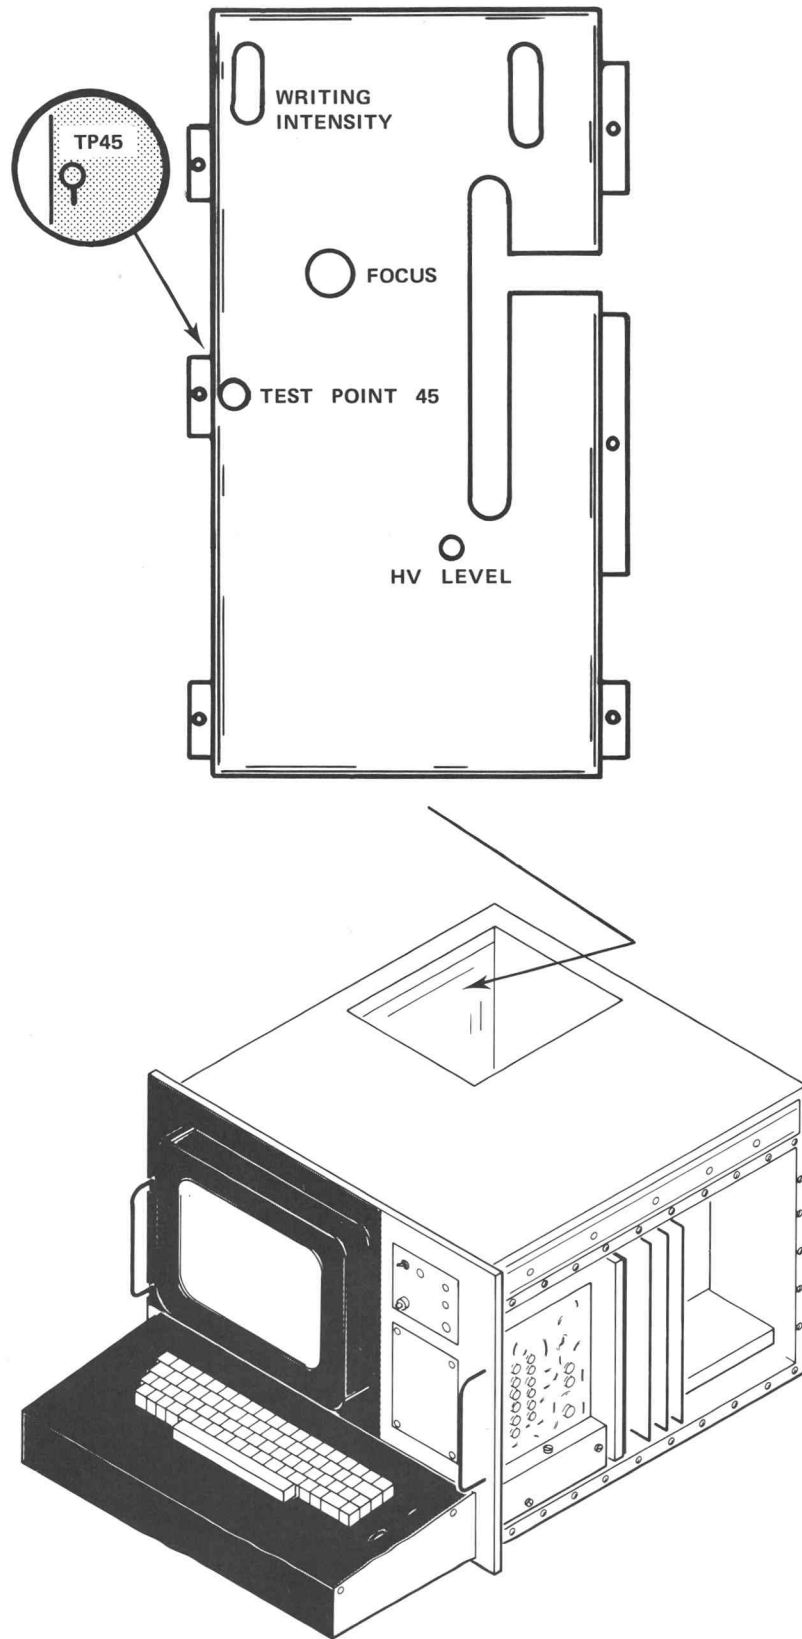

Fig. 4-6. High Voltage adjustments and test points.
a. With the Terminal off, set the voltmeter to read -5850 Vdc and connect it to TP45 on the High Voltage & Z Axis board in the back of the unit. See Fig. 4-6. The TP45 eyelet can be seen by looking into the cutouts on the front edge of the shield.
c. After about one minute, press PAGE. Then check for -5850 V at TP45. Adjust HV LEVEL (Fig. 4-6) as necessary to obtain that value. Use a non-metallic screwdriver to minimize the possibility of causing a short circuit.
f. On the High Voltage & Z Axis board in the back of the unit, rotate WRITING INTENSITY (Fig. 4-6) to increase intensity until the Alpha cursor can be seen near the center of the display. Do not make the cursor any brighter than is necessary. If the Alpha cursor doesn't appear, R91 on TC-1 may be set to the wrong limit, or the Terminal may be in Hold status. (Press SHIFT to clear Hold status.)
h. Press PAGE and check for the momentary appearance of a dot at the bottom-left of the cursor position. The dot may appear just before the cursor comes back into view. Adjust WRITING INTENSITY (Fig. 4-6) until a dim dot momentarily appears at the bottom-left corner of the cursor position after the erase cycle, as just described. *CAUTION—Do not allow the dot to become too bright.* Then readjust WRITING INTENSITY just to the point where the dot no longer appears after an erase cycle. The cursor should still be visible.
j. Adjust FOCUS ADJUST on the High Voltage & Z Axis board (Fig. 4-6) to obtain a reasonable focused cursor. (Final focusing will be done later in the procedure.)